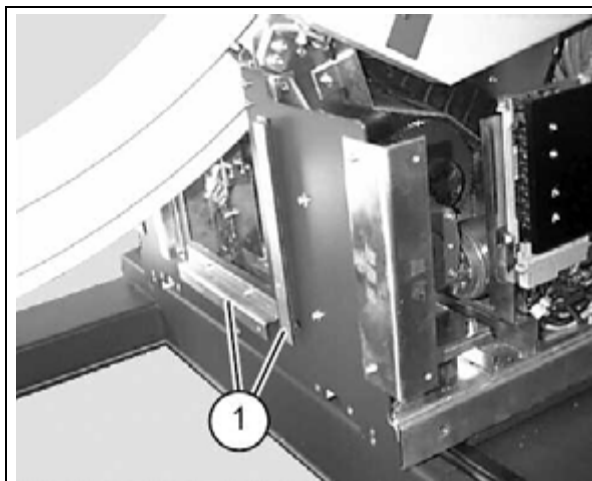

Fig. 30: Retaining rails
- Remove the retaining rails ((1/ Fig. 30 / p. 63)) for the cover plate.